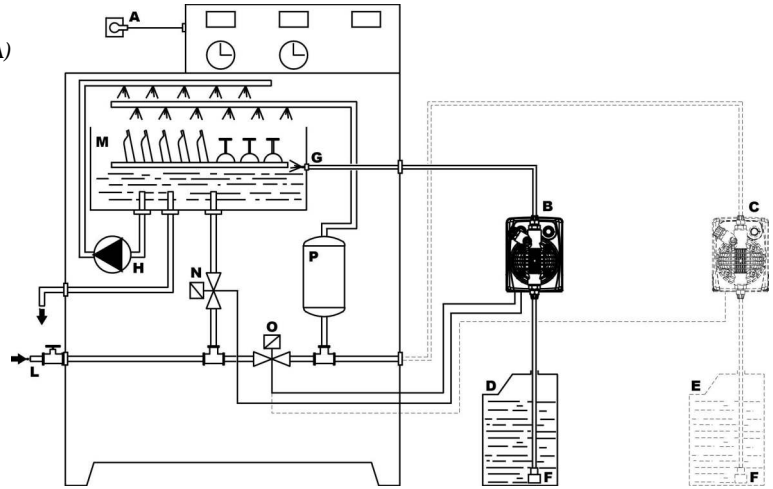

Fig. 12
5.3 - TYPICAL INSTALLATION OF SINGLE TANK DISHWASHER WITH TWO SOLENOID VALVES (Fig. 12)